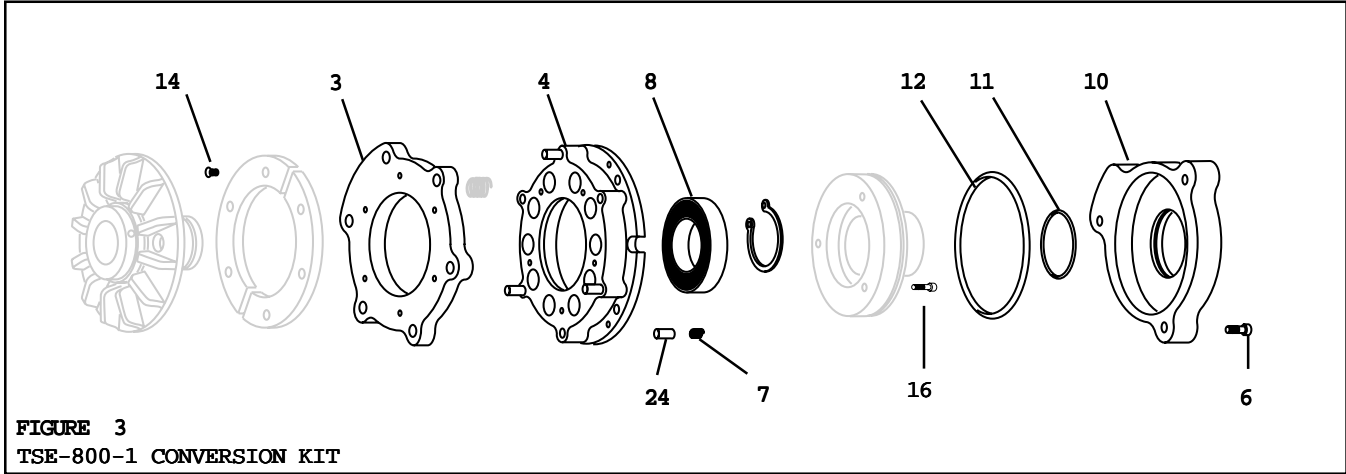

FIGURE 3
23. Install Spacers (Item 24) inside of the Compression Springs (Item 7) and place these items into the pockets of the Spring Housing Assembly (Item 4) (See Figure 3).